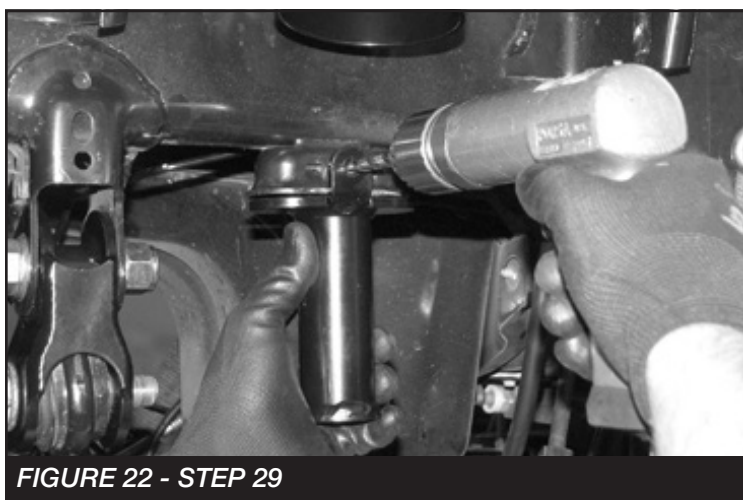

FIGURE 22 - STEP 29
29. Using the outer tab on the bump stop as a drill guide, drill a 5/16" hole all the way through the factory bump stop mount. **SEE FIGURE 22**